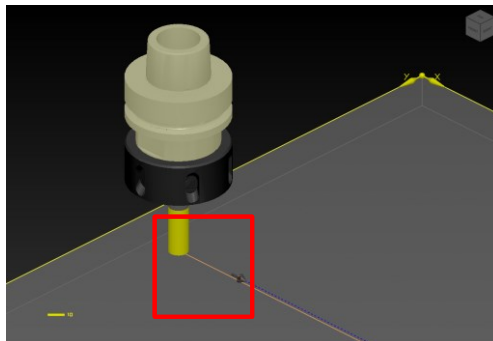

Figure 1
- **Initial extension [mm]:** it specify the extension or shortening of the machining path starting related to the start point (*Figure 1*).